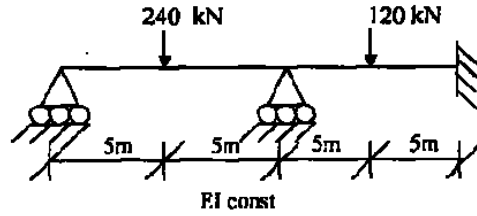

Fig.3
1. Analyse the continuous beam shown in Fig.3 using displacement method.